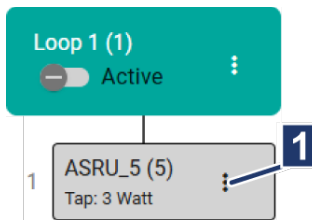

Fig. 7-6: Select *Set tapping*
13. On the desired remote electronics click on  (→ Fig. 7-6/1) and select *Set tapping*.